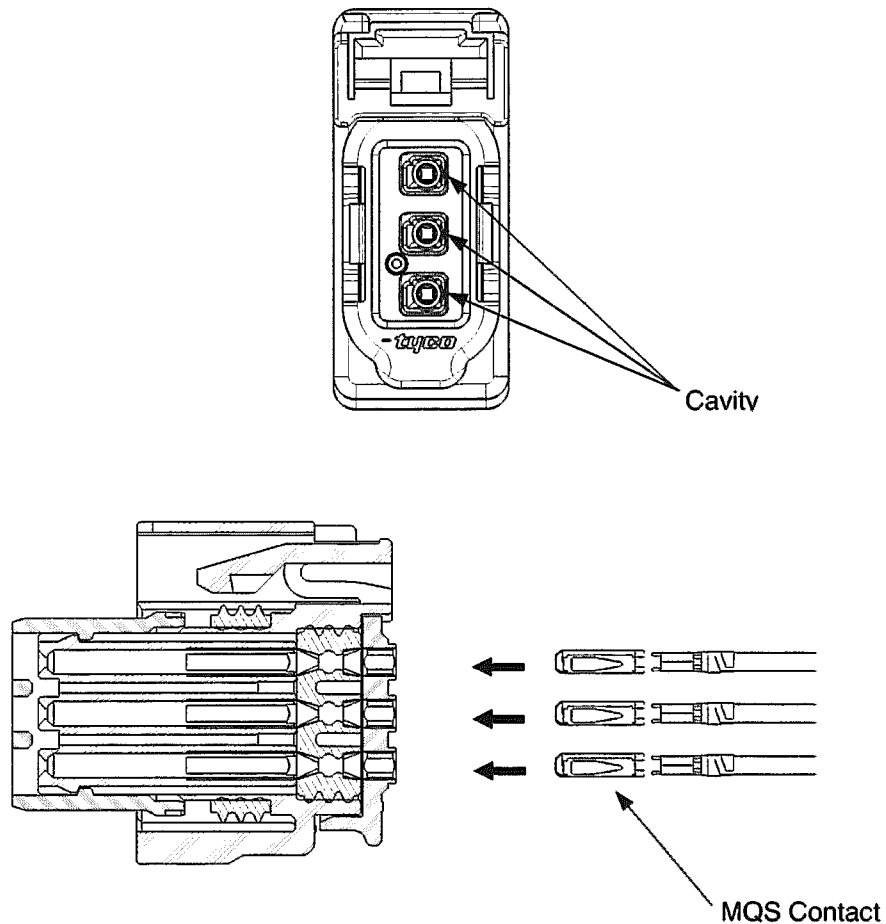

Fig.8
- (2) Insert terminals into the housing with the direction straightly as shown in Fig.8 .The insertion is finished when the lance is locked and the terminal cannot be more inserted.